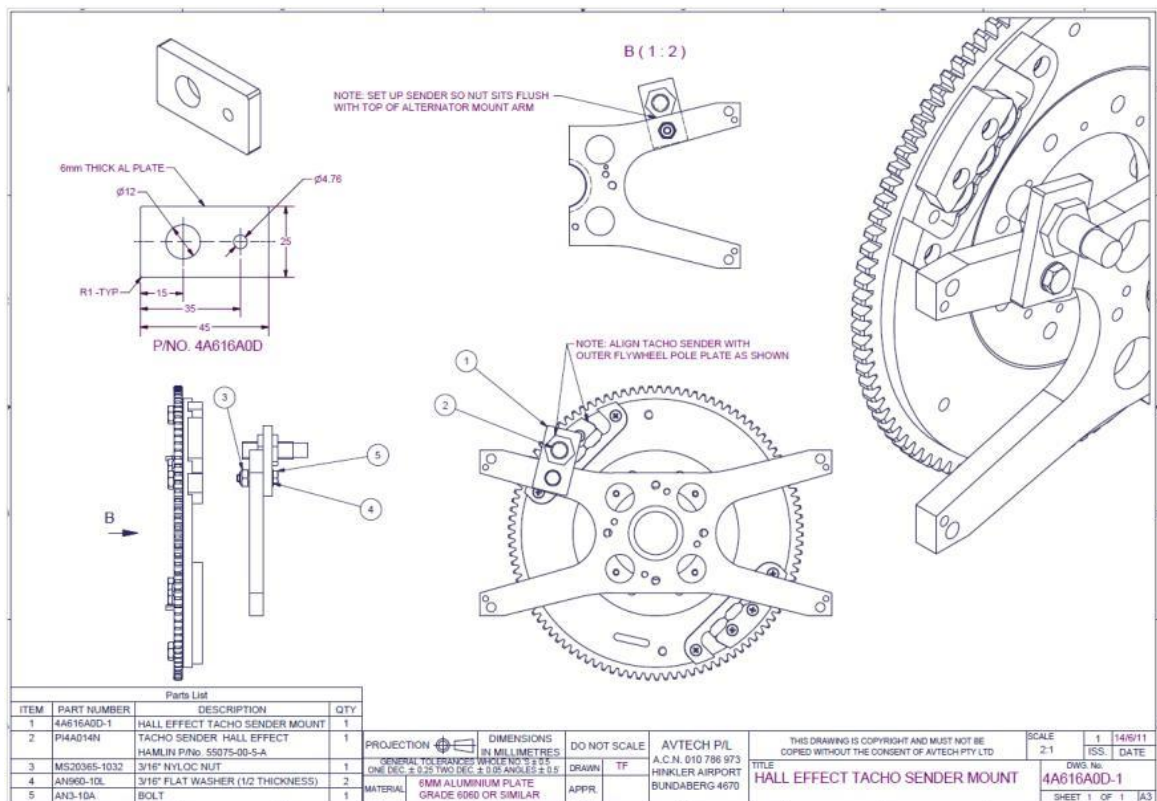

Figure 151 – Hall effect Tacho Sender
- Where the hall-effect type tacho sender is used (Figure 151) it must be installed during final assembly